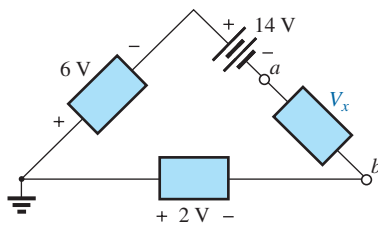

FIG. 5.31
**EXAMPLE 5.12** Determine the voltage  $V_x$  for the circuit in Fig. 5.31. Note that the polarity of  $V_x$  was not provided.